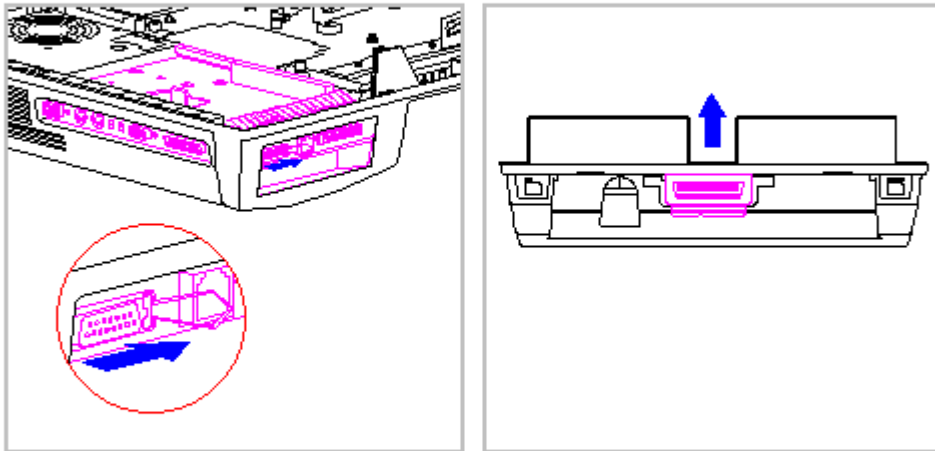

Figure 9-22. Removing the System Board/Battery Charging Compartment Assembly
9. To allow the latch on the AUI connector to clear the top cover, fold the latch [1] so that it lies against the RJ-45 connector (Figure 9-22).
10. Lift the front of the system board/battery charging compartment assembly up by the external options connector [2] until the connector shield [3] is free of the top cover, then carefully tilt the assembly back to release it from the top cover (Figure 9-22).